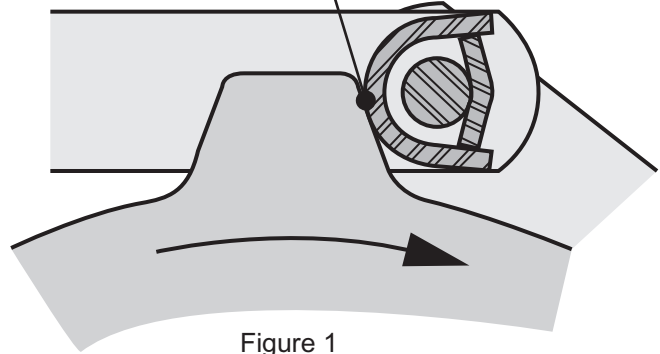

Figure 1
**The Problem:** Since their introduction, wide mill welded steel chains were designed to run “narrow” or “closed end” forward. This is the direction of travel that the chains on the preceding page run. Running in this direction, an offset sidebar chain will experience scrubbing between the outside of the chain’s barrel and the drive sprocket’s tooth (Figure 1). On shorter conveyors, where the chain frequently contacts the sprocket, this scrubbing can cause rapid wear of both the chain and sprocket. This scrubbing may not cause as much chain wear on longer conveyors but it will still cause sprocket wear.
Note the difference in position of the pin within the barrel in Figures 1 and 2. When running narrow end forward and the engaged pin is being pulled forward at the time of engagement and the pin of the previous link is being pulled against the front of the barrel.